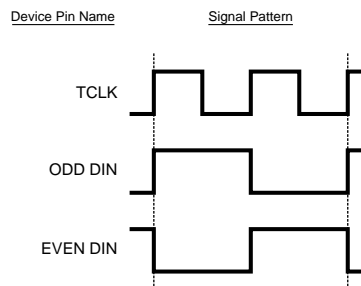
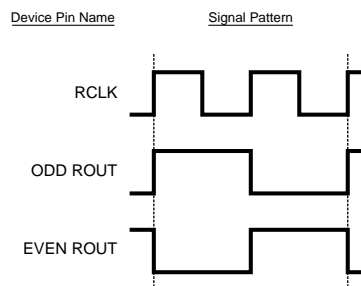
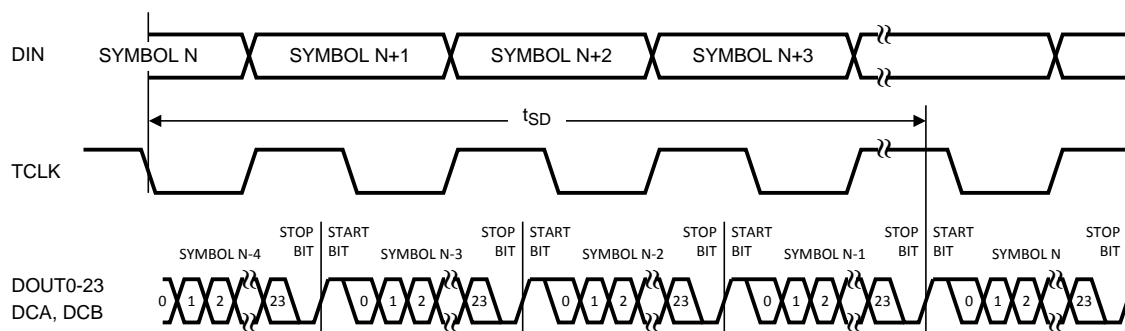

Figure 1. Serializer Input Checker-board Pattern
Figure 2. Deserializer Output Checker-board Pattern
Figure 8. Serializer Delay
(1) Figure 1, Figure 2, Figure 8, Figure 12, Figure 14 show a falling edge data strobe (TCLK IN/RCLK OUT).